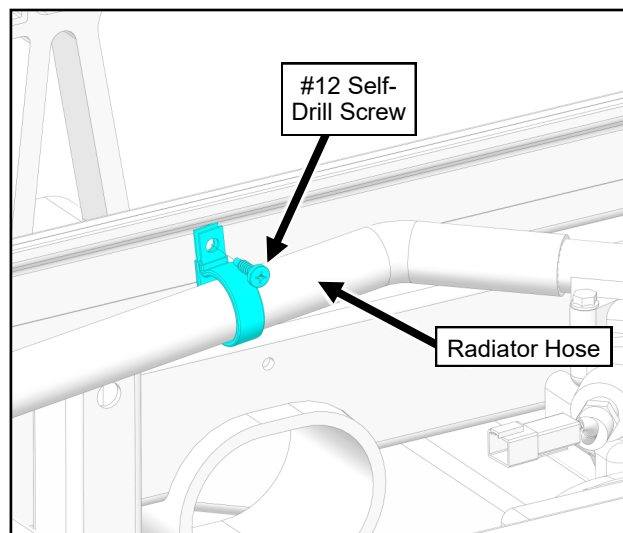

Fig. 3.5 (Install P-Clamp)
- 3.5 Install P-Clamp to radiator hose, so hose is against vehicle's frame as shown in Figure 3.5. Locate as high as possible to ensure adequate clearance with any moving parts.